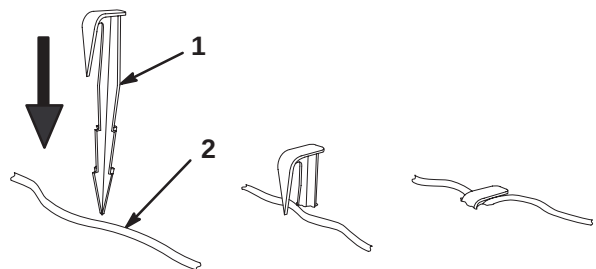

Figure 11
- Secure the perimeter wire along the boundary of the plot to the ground with the pegs (Fig. 11) set about three feet (one meter) apart. Keep the wire taut as you go.